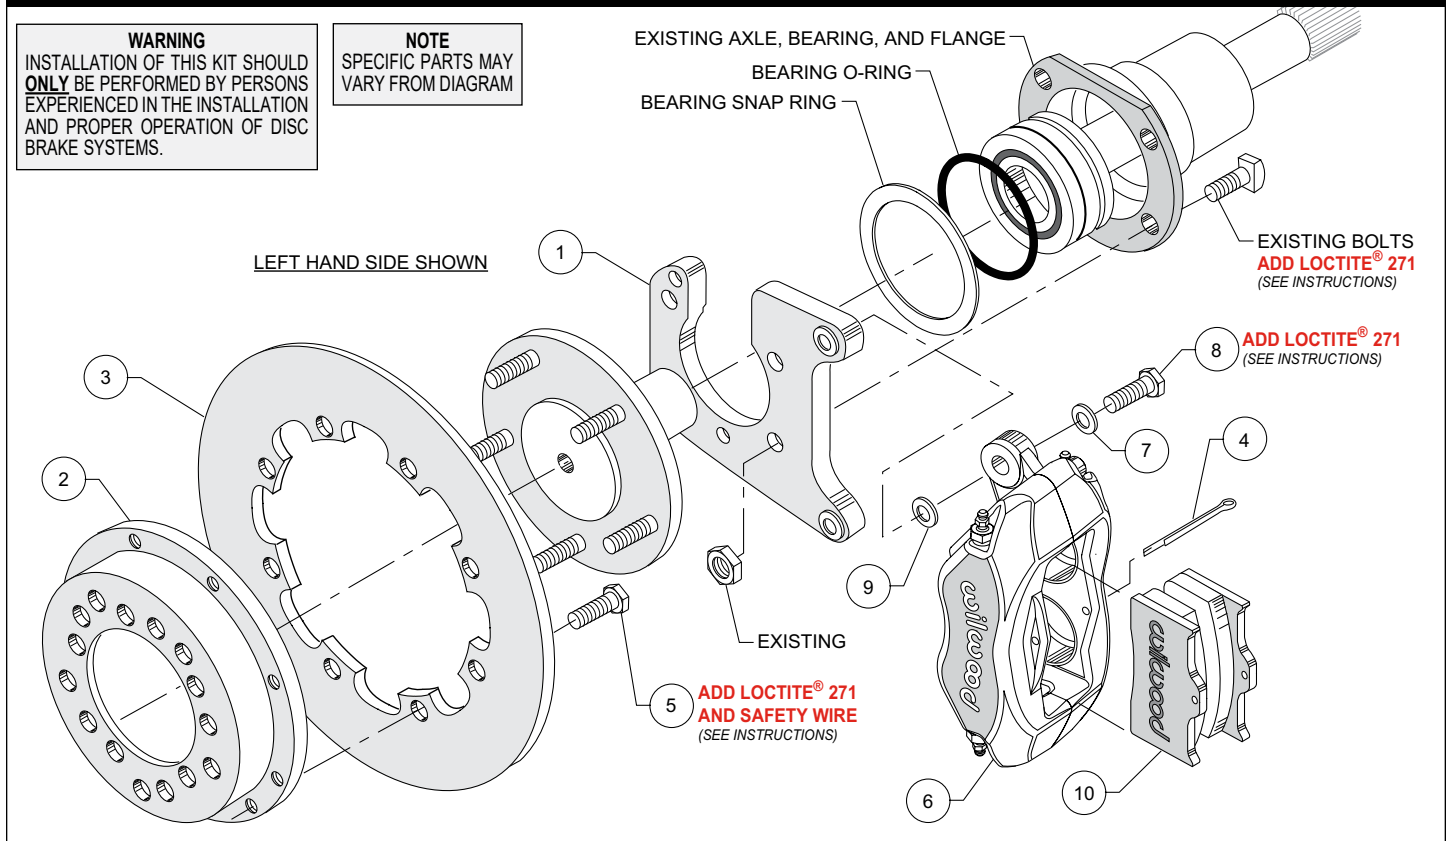
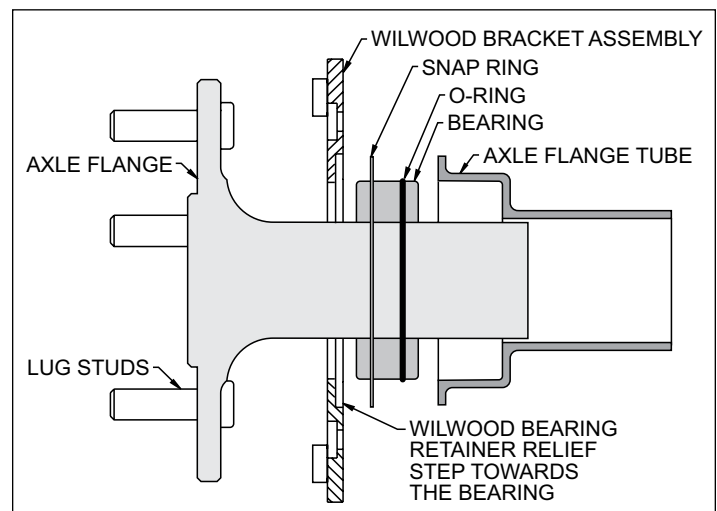
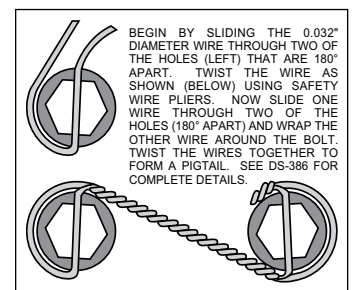
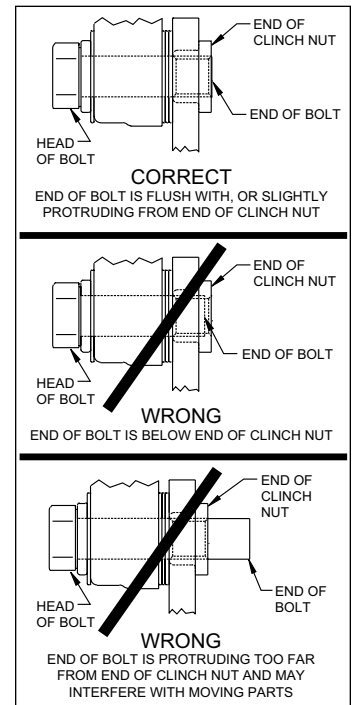

Figure 3. Typical Installation Configuration
Figure 6. Retainer / Axle Diagram
Figure 7. Safety Wire Diagram
Figure 8. Clinch Nut Engagement Diagram
NOTE: Numbers in parenthesis refer to the parts list and Figure 3 on the preceding pages.
CAUTION: All mounting bolts must fully engage clinch nuts. Be sure to check that all bolts are either flush or protruding through flanged side of clinch nut after shimming, Figure 8.
•Temporarily remove the snap ring and o-ring from the bearing. Use care so as not to damage those components. Orient the bracket assembly (1) as shown in Figure 3 and slide it onto the axle and past the bearing. Reinstall the snap ring and o-ring onto the bearing, again using care. Insert the axle and bracket assembly into the axle housing. Ensure that the bracket assembly plate fits flush against the axle housing flange. **NOTE:** The bearing snap ring should be sandwiched between the axle housing flange and the new bracket assembly, Figure 6. Secure bracket assembly to the axle housing flange using the Original Equipment Manufacturer (OEM) bolts and nuts, Figure 3. Stock OEM hex nuts that retain the bracket (1) should be on the wheel side of the bracket. Apply red Loctite® 271 to the OEM bolt threads and torque to OEM specifications. **NOTE:** Make sure the heads of the caliper mounting bracket insert nuts are FACING OUTWARD TOWARDS THE WHEEL.
•Orient the rotor (3) and the hat (2) as shown in Figure 3. Attach rotor to hat using bolts (5). Using an alternating sequence, apply red Loctite® 271 to the threads, and torque bolts to 25 ft-lb. Safety wire bolts (5) using standard 0.032 inch diameter stainless steel safety wire as shown in Figure 7. Please refer to Wilwood's data sheet DS-386 (available at www.wilwood.com/Pdf/DataSheets/ds386.pdf) for complete safety wire installation instructions.
•Align the correct hole pattern in the hat (2) with the stud pattern on the axle flange and slide into place, Figure 3. **NOTE:** The rotor/hat must fit flush against the axle flange or excessive rotor run out may result. Install three lug nuts (finger tight) to keep the rotor/hat assembly in place while continuing with the installation. **NOTE:** Some OEM and after market axles come with stud sizes larger than 0.50" diameter. Verify stud size and have a qualified machine shop drill the bolt circle of the hat/rotor to the correct stud size, if necessary.
•**NOTE:** Please reference the caution statement at the beginning of the assembly instructions. Mount the caliper (6) onto the caliper mounting bracket (1) using bolts (8) and washers (7), as shown in Figure 3. Initially place one .032" thick shim (9) on each bolt between the caliper and the bracket, Photo 1. Temporarily tighten the mounting bolts and view the rotor (3) through the top opening of the caliper. The rotor should be centered in the caliper, Photo 2. If not, adjust by adding or subtracting shims between the bracket and the caliper. Always use the same amount of shims on each of the two mounting bolts. **NOTE:** The end of each bolt must be flush with or slightly protruding from the head of the clinch nut, as shown in Figure 8. If necessary place spare shims between washer (7) and caliper mounting ear to achieve the proper clinch nut engagement. Once the caliper alignment and clinch nut engagement are correct, remove the bolts one at a time, apply red *Loctite*® 271 to bolt threads, and torque to 40 ft-lb. Caliper mount bolts may be safety wired for additional security.
•Install the disc brake pads (10) into the caliper, with the friction material facing the rotor (3), and secure in place using cotter pin (4), Photo 3.